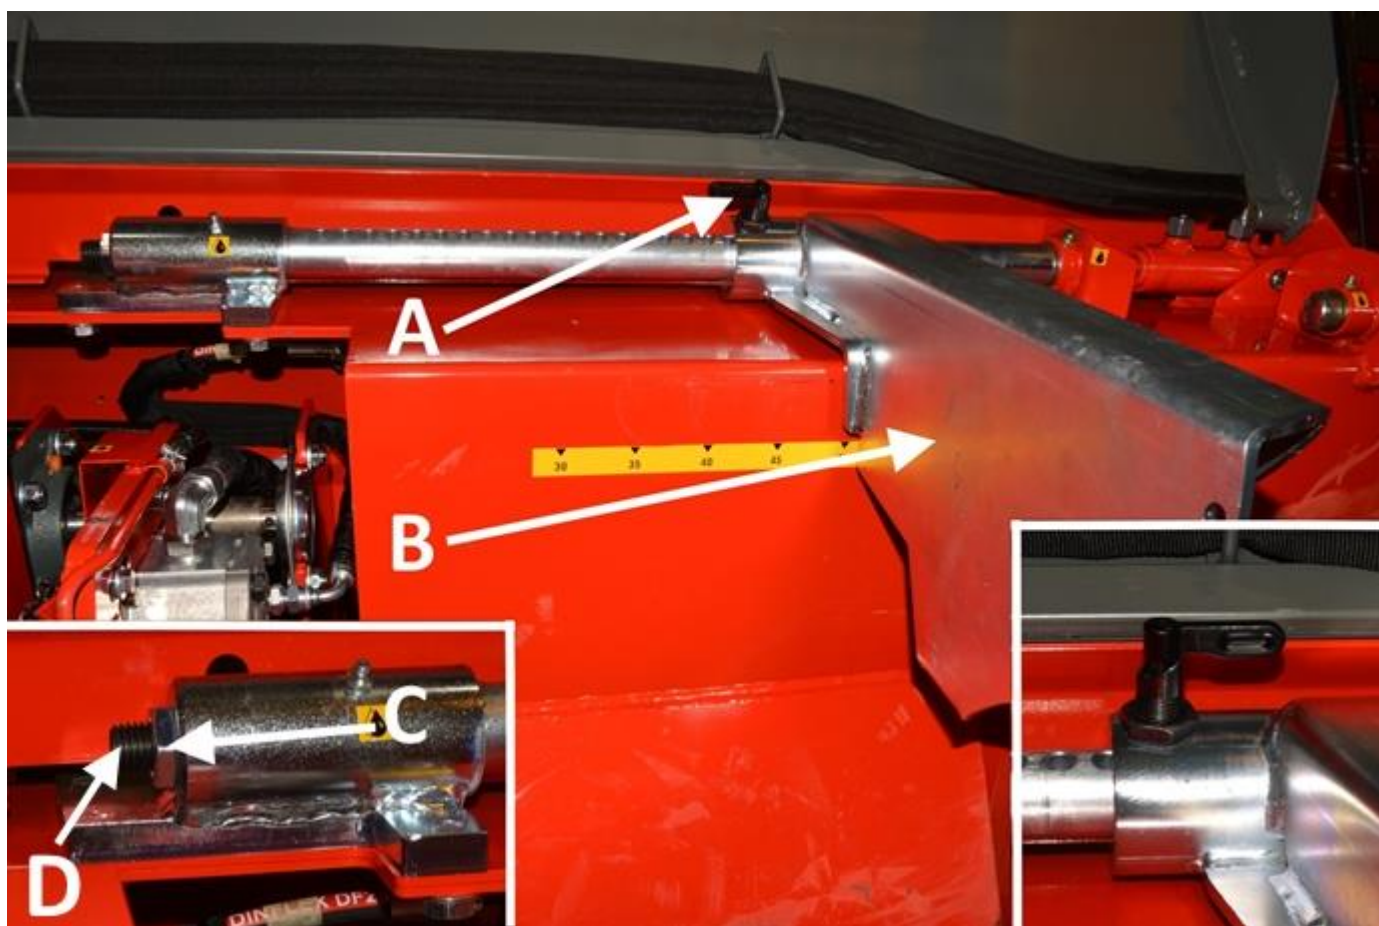

Figure 16. Log length adjustment
When sawing, the log limiter plate (B in Figure 16) always moves approx. 5 cm backwards with the help of a hydraulic cylinder to ensure that the log does not get stuck and falls freely into the splitting groove. Before splitting, the operator must always ensure that the log is not oversized and does not connect with limiter plate B.
2. Adjust the log length limiter to the desired length by releasing the lock in Figure 16 to the open position (as shown in the smaller figure) and sliding limiter plate B to the desired position.
3. Turn lock A in Figure 16 back to the closed position.
4. If necessary, you can fine-tune the measuring device by loosening nut C in Figure 16 and rotating adjustment screw D to the desired direction. Tightening the screw increases log length and vice versa. When you are finished, lock nut C back into place. (If the log length is standard, you can fine tune the log length to minimise the amount of waste wood).